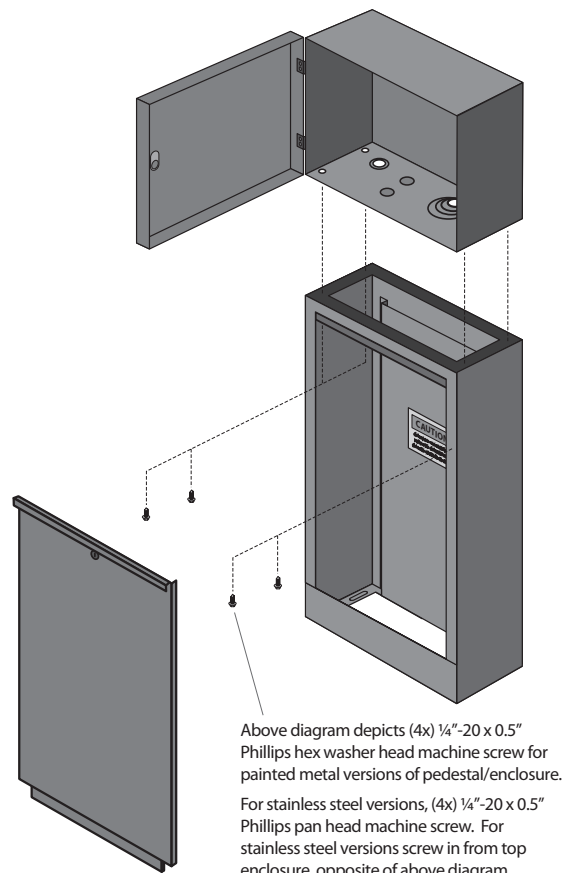

Figure 4
2. Using the included mounting screws, attach the cabinet to the pedestal. Ensure that the position and direction of the screws is correct as detailed in Figure 4.